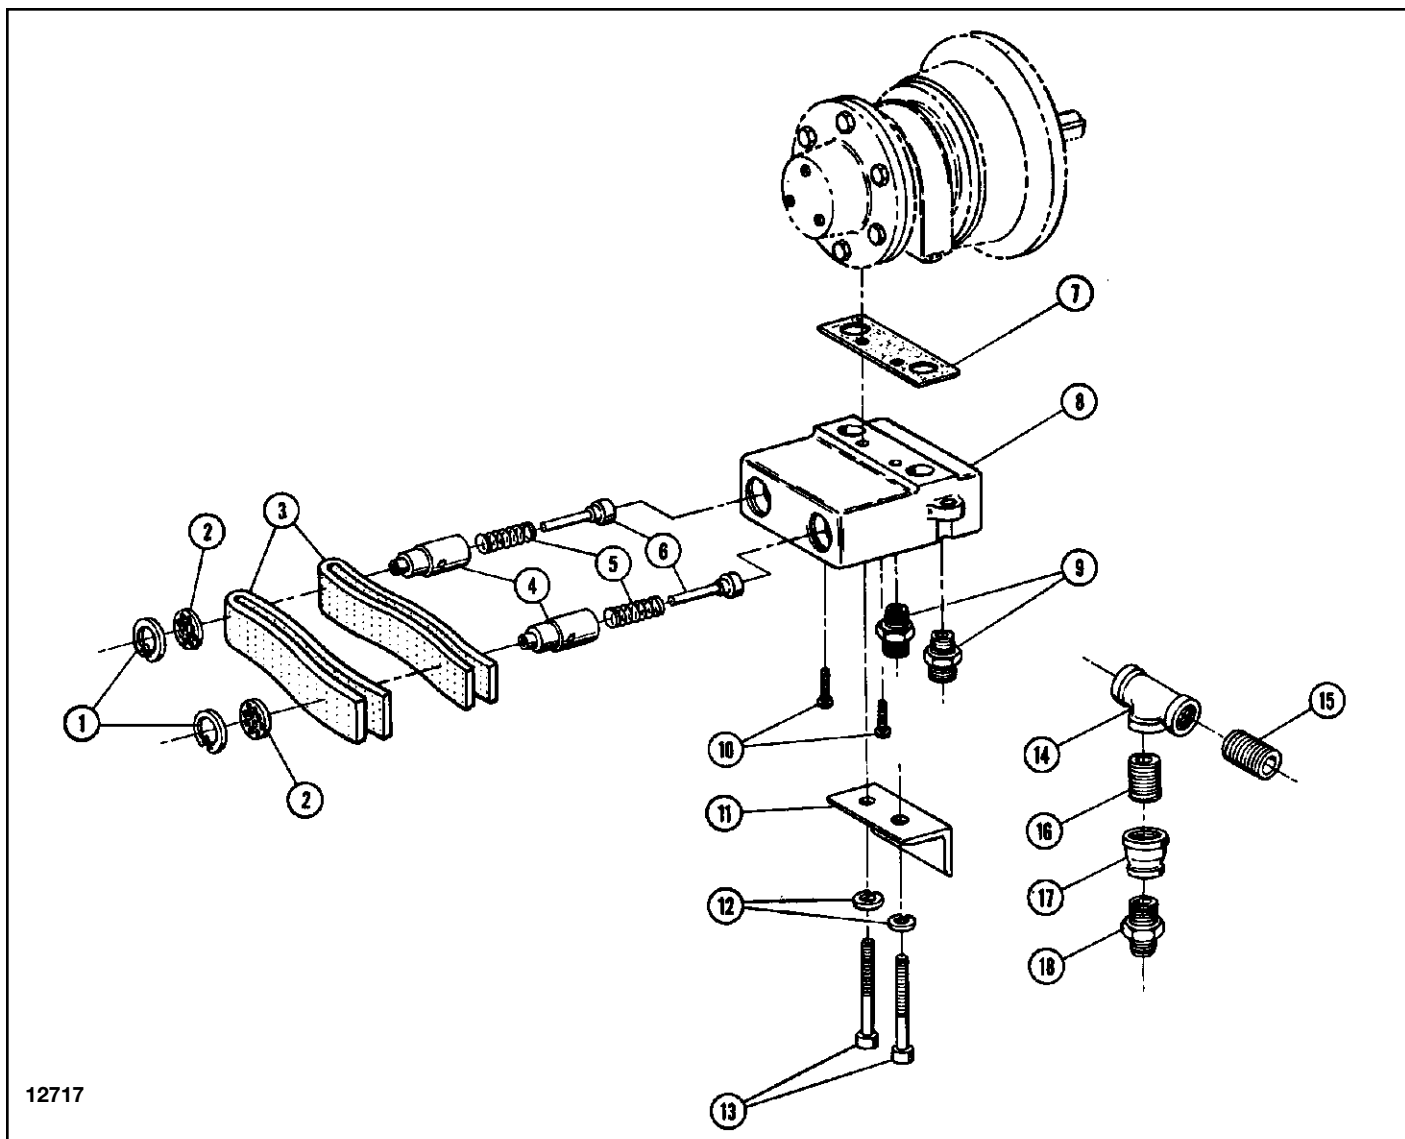

Figure 9. Supply Head Assembly
- a. Use close nipple in the elbow to attach tee as shown in Figure 9. b. Connect motor to nearest filtered and lubricated air source using 3/4" I.D. air hose attached to tee. Avoid use of hose assemblies of smaller diameters that will cause air flow restrictions and reduce bridge performance.
- (1) Before assembly, all parts should be thoroughly cleaned and inspected to determine their serviceability. Replace all parts that are worn or damaged.
- (2) Reassemble parts in reverse of the disassembly steps above.
a. Disassembly. (See Figure 9.)
- (1) Disconnect three air hoses leading to pendant throttle control assembly.
- (2) Remove two hex socket cap screws and lockwashers on side of supply head assembly and remove supply head assembly from air motor body.
- (3) To gain access to the valves, remove the retaining rings and screens. at the ports and pull out the muffling material.
- (4) Remove the two pan head screws on the side of the supply head assembly to release the valves inside the assembly.
- (5) Pull valve sleeve, spring, and stem out of the supply head assembly. Valve parts may be reached by using needle nose pliers.
b. Reassembly. (See Figure 9.)
- (2) Install valve springs and stems in sleeves and lubricate.
- (3) Slide sleeves into position in supply head (small, single hole on side of sleeves must align with retaining screws) and reinstall retaining screws.
- (4) Replace supply head gasket. Position gasket so that no portion of ports is covered.